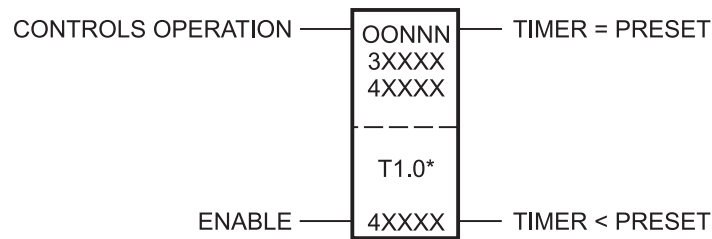

Figure 4-5
- Identify the timer register values. The top number is the timer preset. This is used to set the number of seconds the timer will run. This can be a register (3XXXX or 4XXXX) or a number 1-999. The middle number is for identification and specifies time increments in the holding register (e.g., T.01 identifies the device as a timer with increments every one hundredth of a second). The bottom number is the holding register that is used to accumulate time in seconds. See Figure 4-5.